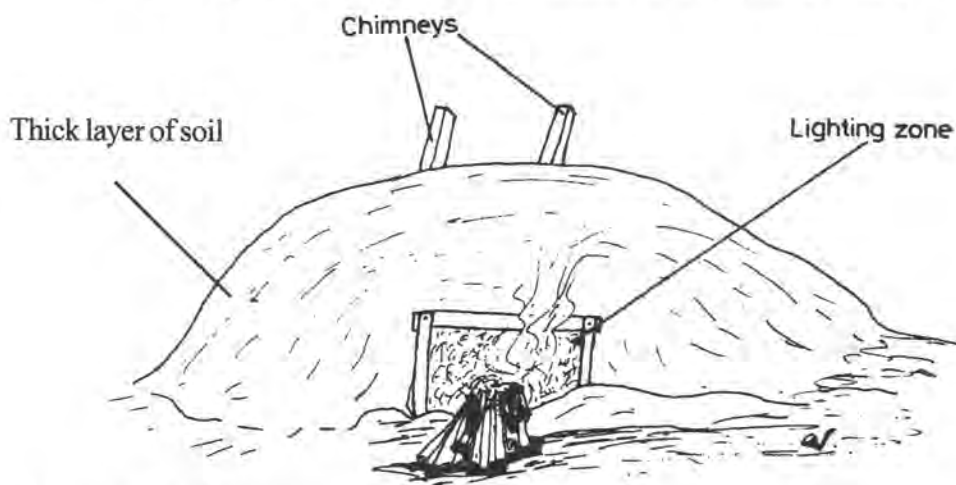

Figure 2.6: The kiln is covered with a thick layer of soil except for the lighting point
6. Apply a thick layer of soil on top of the loose foliage and grass layer (or metal sheet) to a depth of about 20 cm other than the lighting point (Figure 2.6). The thick layer of soil is necessary to prevent complete combustion.